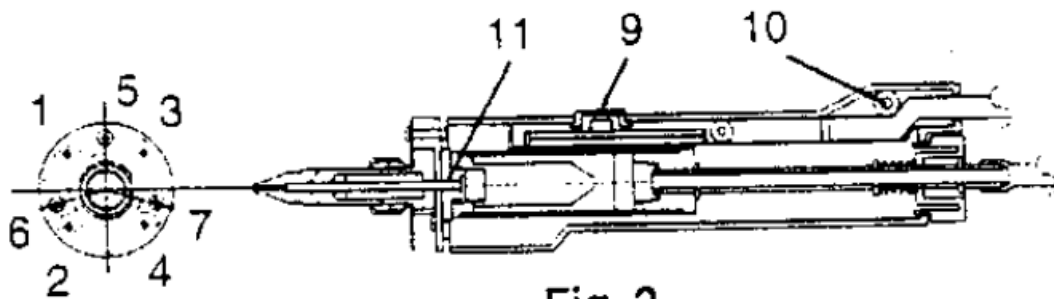
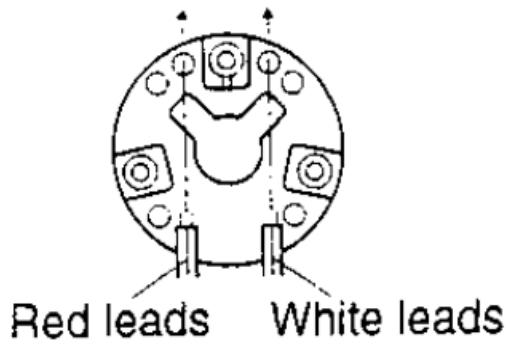

Fig. 2
Fig. 3
5. Remove the screws securing the housing (10) and the flange (3), (4). Fig. 2.
6. Remove the front holder (11). Fig. 2
7. Remove the screws (5), (6), (7) securing the heating element to the flange, and the screws (1), (2).
9. Secure a new heating element (24V-60W) to the flange with screws (5), (6), and (7). Install the heater in such a way that the lead wires are oriented as in Fig. 3